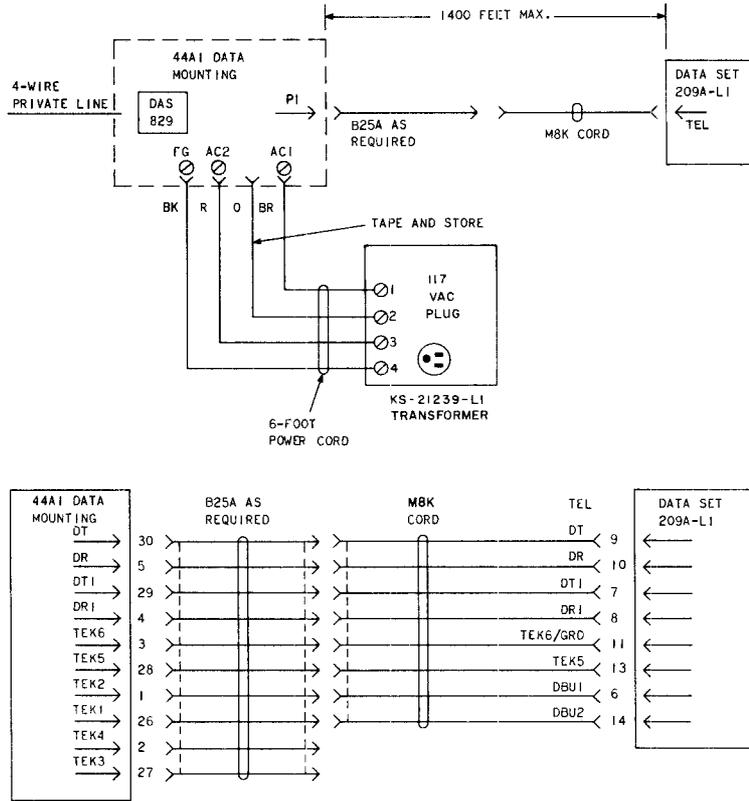
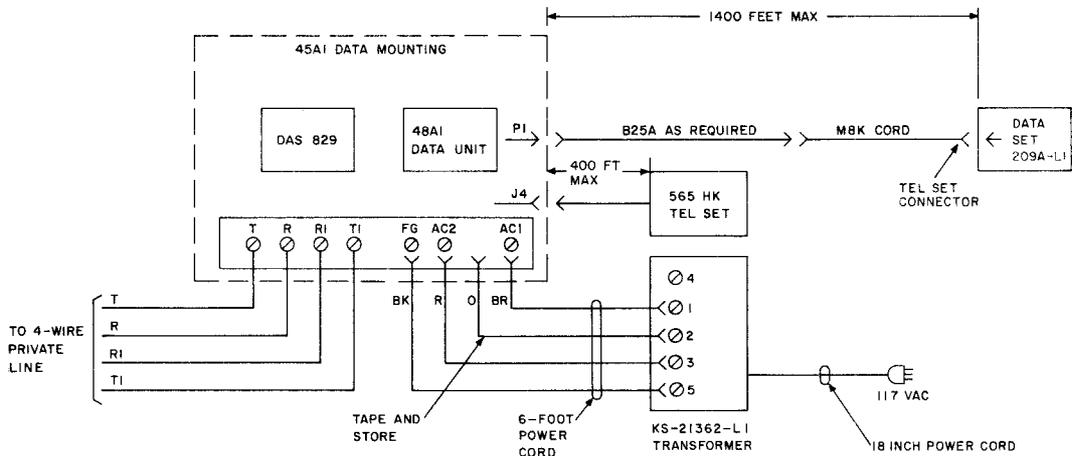

Fig. 5—Block and Connection Diagram for Data Set 209A-L1 Using DAS 829-Type—Data Only
Fig. 6—Block Diagram for Data Set 209A-L1 Using DAS 829-Type—Data/Voice
**3.02** Refer to Fig. 5 and 6 for connections between DS 209A-L1 and DAS 829-type. The data-only connection is shown in Fig. 5 and the data/voice connection is shown in Fig. 6. Additional information pertaining to DAS 829-type is contained in Sections 598-082-100 and 598-082-101.
**5.02** Call the STC and verify that the 4-wire private line (PL) channel [equipped with high-performance data conditioning (D1)] to be used with DS 209A-L1 meets the requirements given in Sections 314-410-105 and 314-410-500. Requirements specified for the high-performance data conditioning (D1) must be met to ensure that the tests recommended below will adequately test the data channel. Connections for the basic data station configurations are shown in Fig. 5 through 11. Install the DAS 828A-L1 or 829-type in accordance with Section 598-080-200 or 598-082-200, respectively.